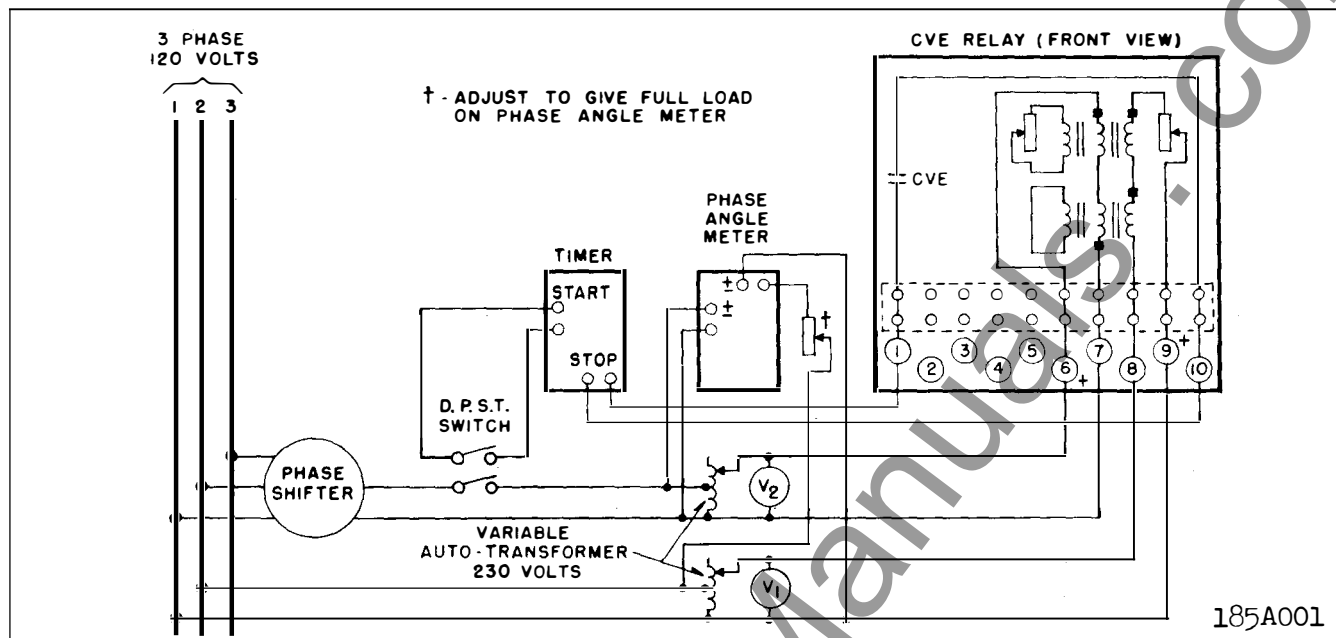

Fig. 12 Diagram of CVE Test Connections.
2. Operating Circle - Connect the relay per the test diagram of Fig. 12. The contacts should just close under the following two conditions:
3. Spurious Torque Adjustments — With the relay set as per the preliminary adjustments, open the lag coil circuit of the rear electromagnet. This can be done by opening the screw connection on the lag coil of the rear electromagnet or by inserting a piece of insulating material under the adjustable point of the left hand resistor (front view). Connect the relay to test circuit of Fig. 12 and apply rated voltage at zero phase angle on both circuits. With the right hand plug all the way in, adjust the left hand plug of the rear electromagnet such that the disc does not move from the number 11 timedial position. This can be determined by no movement of the disc when the time dial is moved beyond the number 11 position.
With V_1 in Fig. 12 equal to rated voltage the following approximate voltages should be obtained across the coils of the 120 volt relay. Relay set for 20 degree circle.